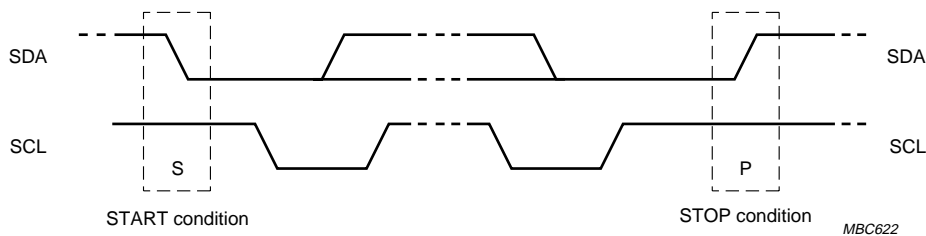

Fig.24 Definition of START and STOP conditions.
Both data and clock lines remain HIGH when the bus is not busy. A HIGH-to-LOW transition of the data line, while the clock is HIGH is defined as the START condition (S). A LOW-to-HIGH transition of the data line while the clock is HIGH is defined as the STOP condition (P). The START and STOP conditions are illustrated in Fig.24.